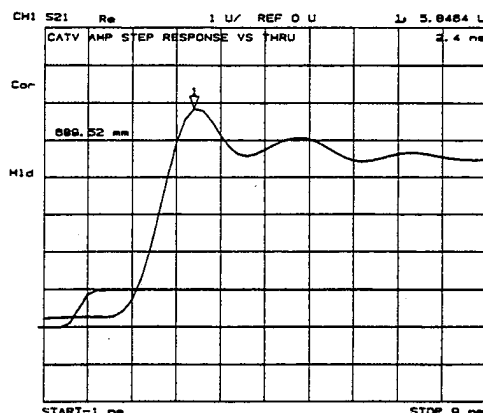

Figure 10-31. Time Domain Low Pass Measurement of an Amplifier Small Signal Transient Response
The step input shown in Figure 10-31 is the inverse Fourier transform of the frequency domain response of a thru measured at calibration. The step rise time is proportional to the highest frequency in the frequency domain sweep; the higher the frequency, the faster the rise time. The frequency sweep in Figure 10-31 is from 10 MHz to 1 GHz.
Figure 10-31 also illustrates the time domain low pass response of an amplifier under test. The average group delay over the measurement frequency range is the difference in time between the step and the amplifier response. This time domain response simulates an oscilloscope measurement of the amplifier's small signal transient response. Note the ringing in the amplifier response that indicates an underdamped design.
**Interpreting the Low Pass Step Transmission Response Vertical Axis.** In the real format, the vertical axis displays the transmission response in real units (e.g. volts). For the amplifier example in Figure 10-31 if the amplifier input is a step of 1 volt, the output, 2.4 nanoseconds after the step (indicated by marker 1), is 5.84 volts.